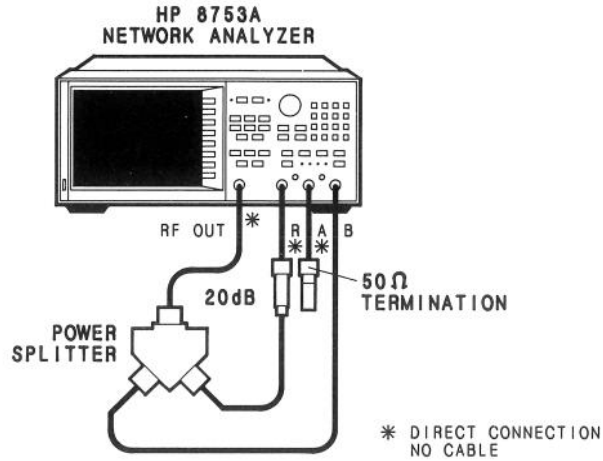

Figure 5. B-into-A Input Crosstalk Test Setup
13. Connect the equipment as shown in Figure 5.